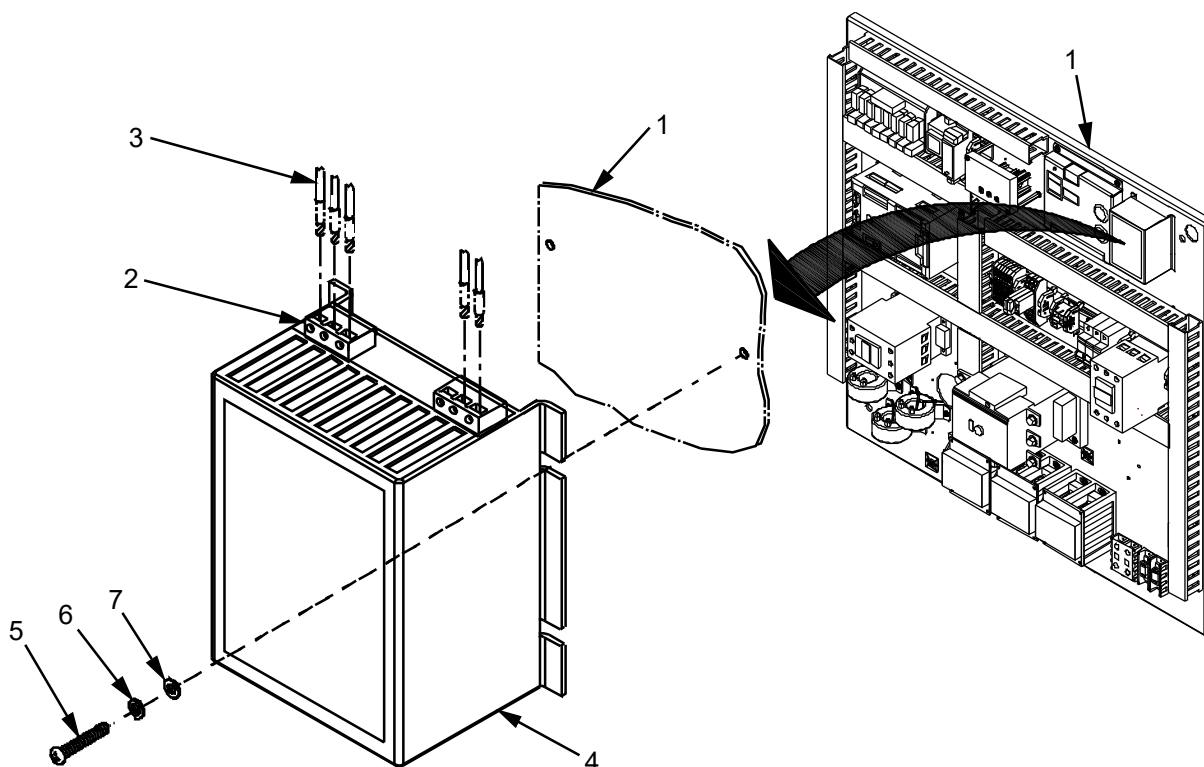
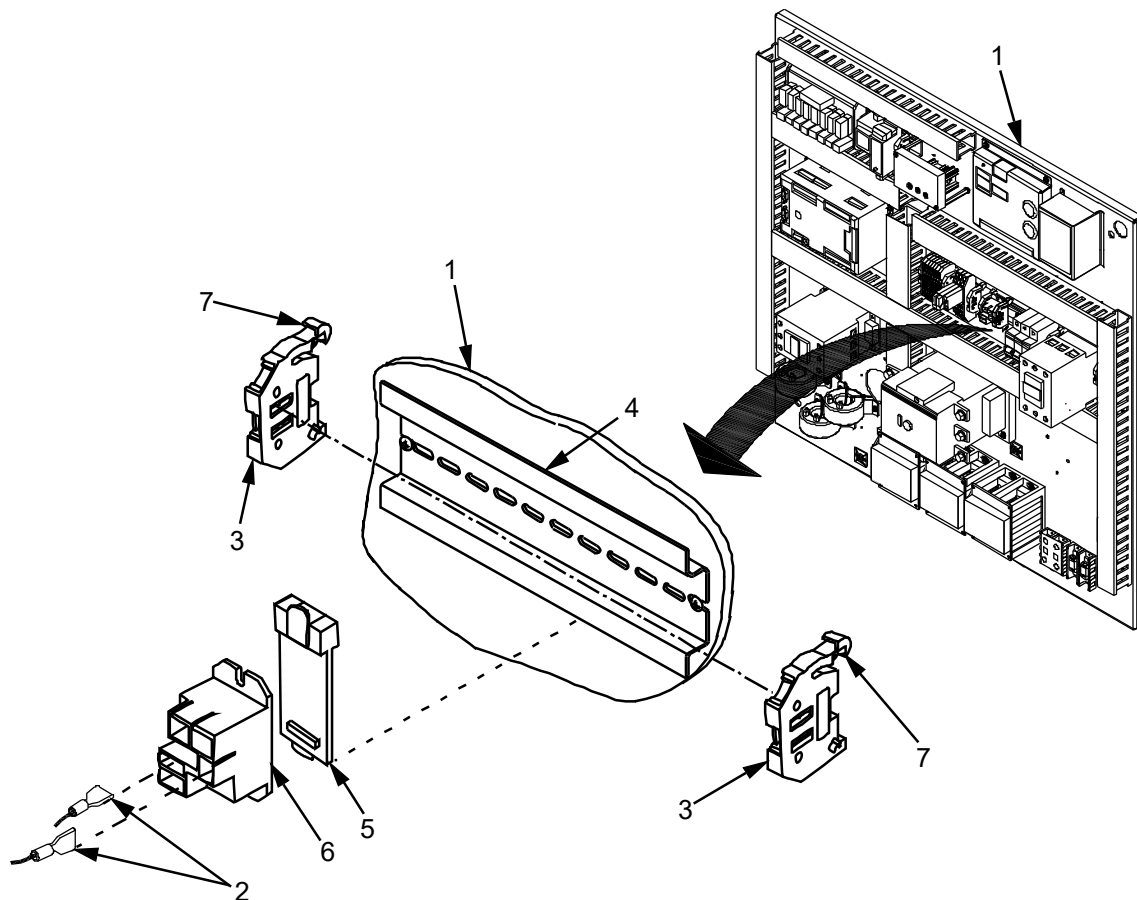

Figure 1. Battery Charger Removal/Replacement.
Figure 2. Battery Charger Relay Removal/Replacement.
1. Install battery charger (Figure 1, Item 2) and secure to barrier panel (Figure 1, Item 1) using four screws (Figure 1, Item 4), lock washers (Figure 1, Item 5), and flat washers (Figure 1, Item 6).
2. Connect terminals (Figure 1, Item 3) to battery charger (Figure 1, Item 2).
2. Disconnect battery ground cable (black) (WP 0056, Figure 2, Item 26) from battery.
4. Mark and disconnect terminals (Figure 2, Item 2) from battery charger relay (Figure 1, Item 6).
5. Remove and retain two screws (Figure 2, Item 3), lock washers (Figure 2, Item 4) and flat washers (Figure 2, Item 5) securing battery charger relay (Figure 2, Item 6) to barrier panel (Figure 2, Item 1).
6. Remove battery charger relay (Figure 2, Item 6).
1. Install battery charger relay (Figure 2, Item 6) and secure to barrier panel (Figure 2, Item 1) using two screws (Figure 2, Item 3), lock washers (Figure 2, Item 4) and flat washers (Figure 2, Item 5).
2. Connect terminals (Figure 2, Item 2) to battery charger relay (Figure 2, Item 6).
4. Connect battery ground cable (black) (WP 0056, Figure 2, Item 26) to battery.